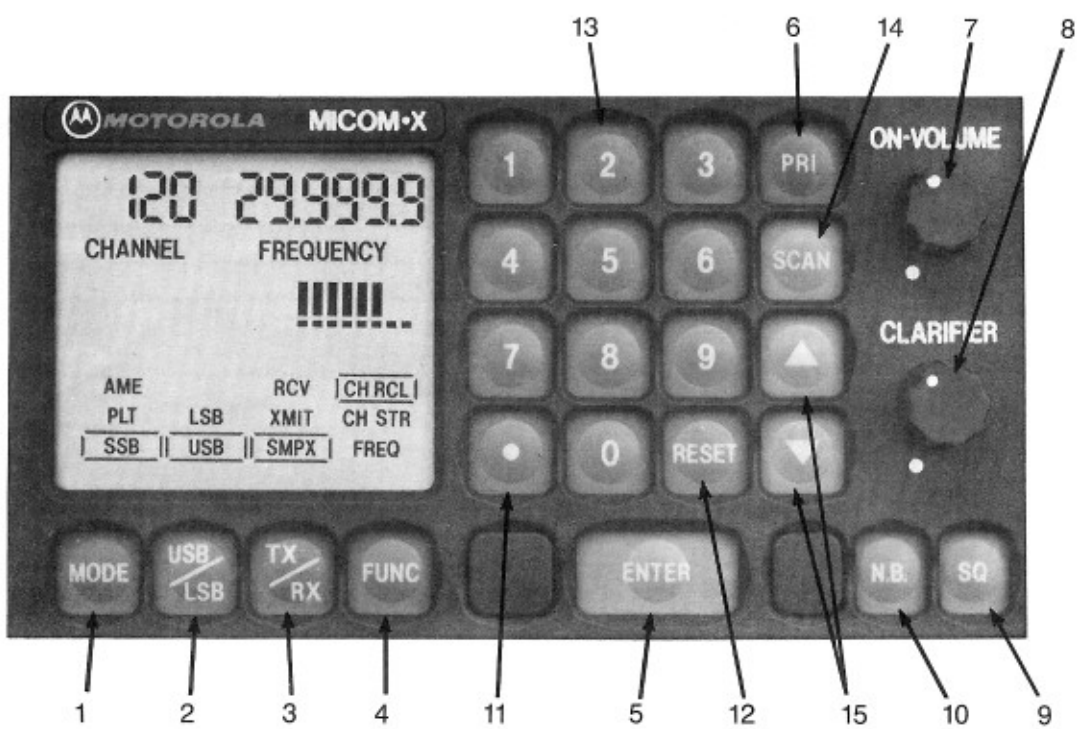

FIGURE 1. CONTROL PANEL CONTROLS AND INDICATORS
A. CONTROLS AND INDICATORS (Refer to Figures 1 and 2)